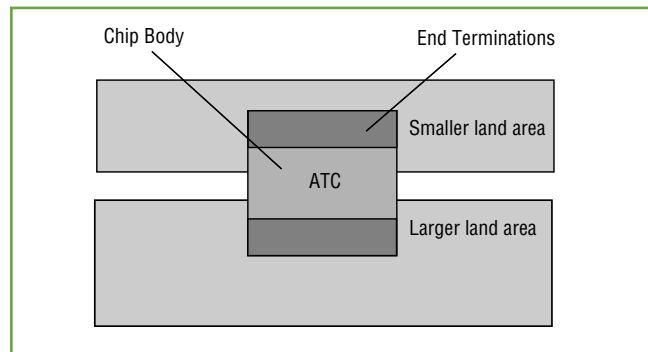

Figure 3. Solder the smaller land area first
6. If lands are of different size, solder the smaller land area first. Hold the chip in place with tweezers or vacuum pickup. See **Figure 3**.